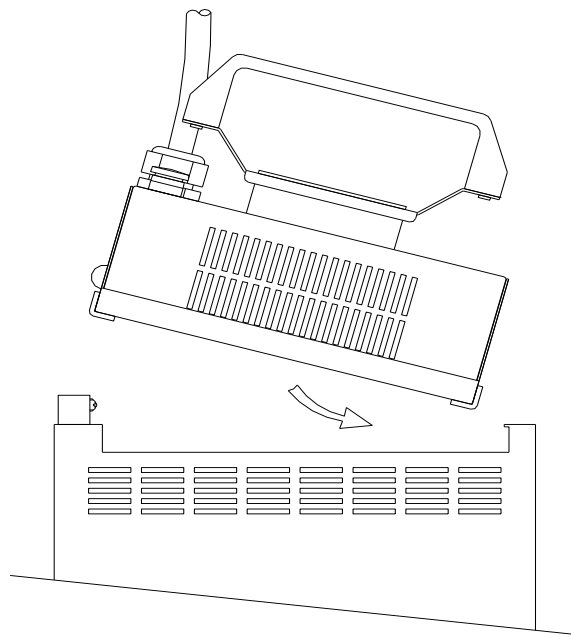

Fig. 10 Install Irradiator into the Docking Station
- Ensure the Irradiator is installed in the Docking Station – see Fig. 10. Install the Irradiator into the tray on top of the Docking Station: Insert the bottom bumper of the Irradiator under the plate at the end of the Docking Station tray. Lower the opposite end of the Irradiator into the tray, engaging the latch.